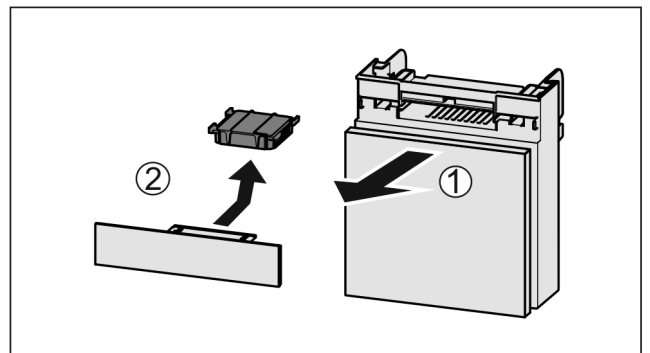

Fig. 166
- ▶ Pull out the compartment Fig. 166 (1).
- ▶ Remove the carbon filter Fig. 166 (2).